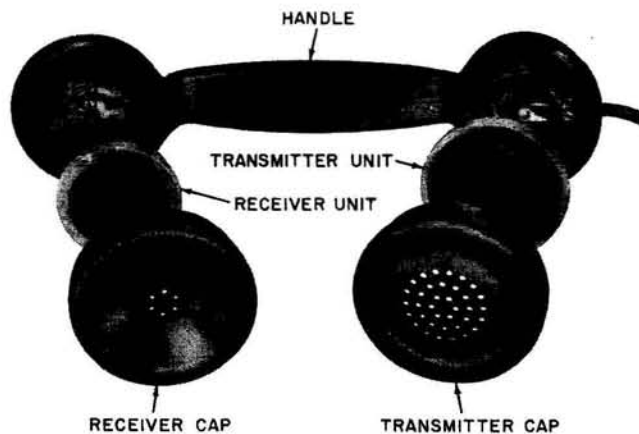

Fig. 2 — F-Type Handset
3.01 Assemblies of the F-type handsets are shown in Fig. 2 and 3. For types and uses of these handsets, see Tables B and C.